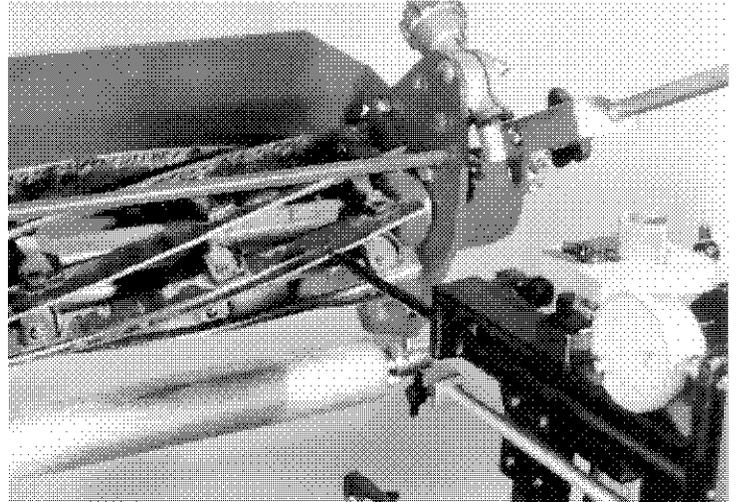
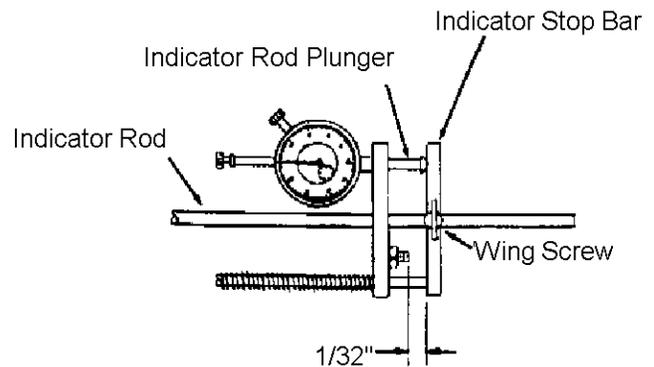

FIG. 57
FIG. 58
- A. After grinding a reel, check the roundness on each end of the reel and center before removing ground reel. See FIG. 57. Loosen the wing nut on the indicator rod firmly against one blade. Pull the indicator stop bar back until there is a 1/32" gap between it and the set screw. This is to permit rotation of the reel blades to ride on the domed anvil only. See FIG. 58. At each location (left, right and center) turn the reel by hand and observe the indicator variations. All readings should be within .002".
- M. Verify the reel straightness and roundness. Install the alignment gage. Index reel blade until you read the high point on the indicator. Now loosen the wing screw and set the indicator stop block to a 1/32" gap as shown in FIG. 57 & 58.